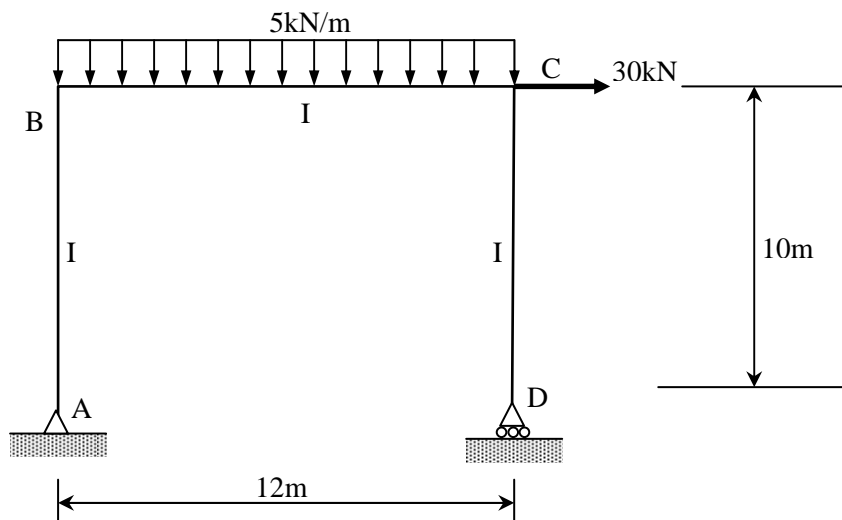

Figure 2
- (b) Figure 2 shows a simple frame which is pinned at A and roller supported at D. A horizontal load 30kN acts at C and a uniformly distributed load 5kN/m acts along BC. It is given that $E=200\text{GPa}$ and $I=400\times 10^6\text{ mm}^4$.